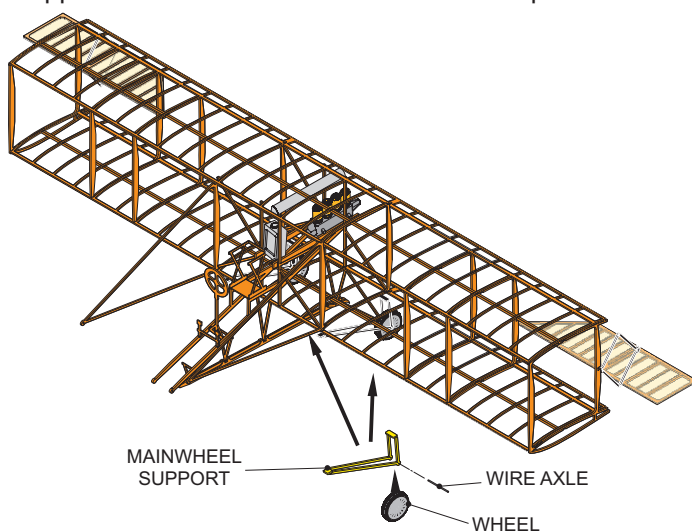

Figure 5
- J Attach the engine/centre structure to the wing assembly (see Figure 5).